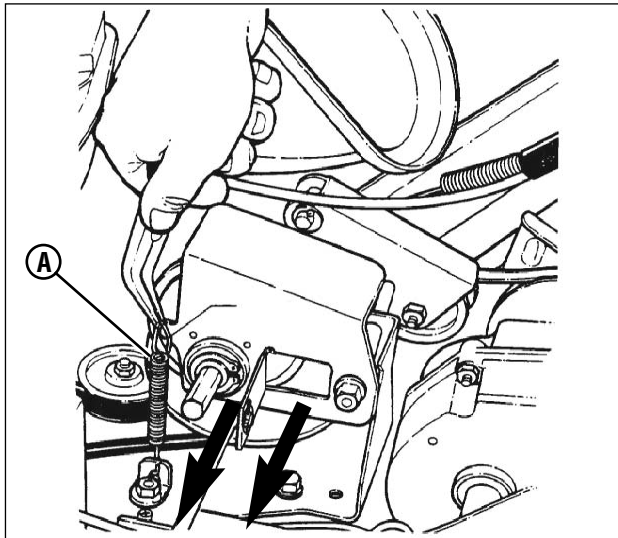

Figure 29: Removing the driven disc assembly
- Using needle nose pliers, unhook the drive spring (**A**, **Figure 29**) and slide the driven disc assembly off the hex shaft.